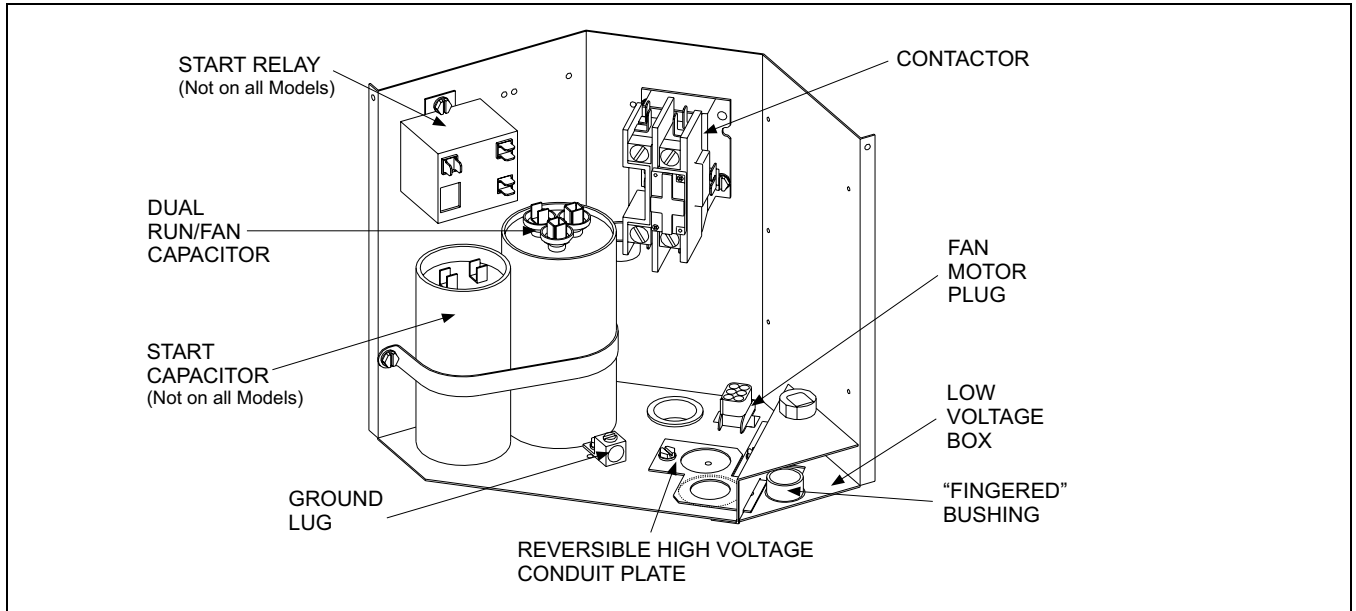

FIGURE 9 : OUTDOOR UNIT CONTROL BOX (10 & 12 SEER) (START COMPONENTS SHOWN)
The adjustable High Voltage Conduit Plate is factory installed for 1/2" conduit connections. For 3/4" conduit, remove the screw holding the plate in place and adjust the location of the holes. For 1" conduit, remove the conduit plate and discard. Re-install screw to maintain the integrity of the unit structure, regardless of the conduit being used. See Figures 9, 10 & 11.
4. Power connection to the unit is facilitated by screw terminals, L1 and L2 on the outdoor unit contactor. See Figures 9, 10 & 11.
1. Route the low voltage cable through the fingered bushing in the low voltage junction box. See Figures 9, 10 & 11.